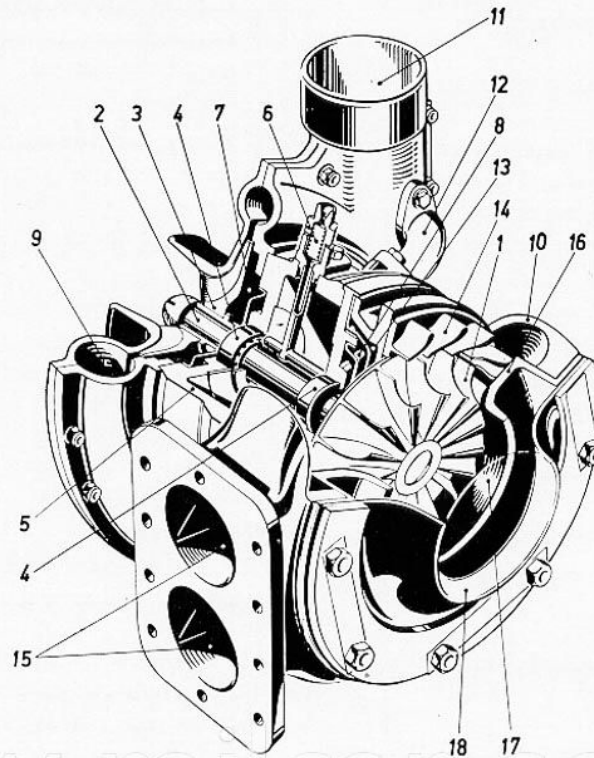

FIG. 1. CUT-AWAY VIEW OF SIMMS-EBERSPACHER TURBOCHARGER
The Simms-Eberspacher turbocharger (Fig. 1) is essentially a high-speed supercharging blower, consisting of the turbine rotor, bearing housing and compressor rotor. These main parts are built up as a small compact unit and mounted on the engine exhaust manifold, see Fig. 3.
9. The oil inlet connection and the distributor pipe assembly (item 6 Fig. 1) should be cleaned.